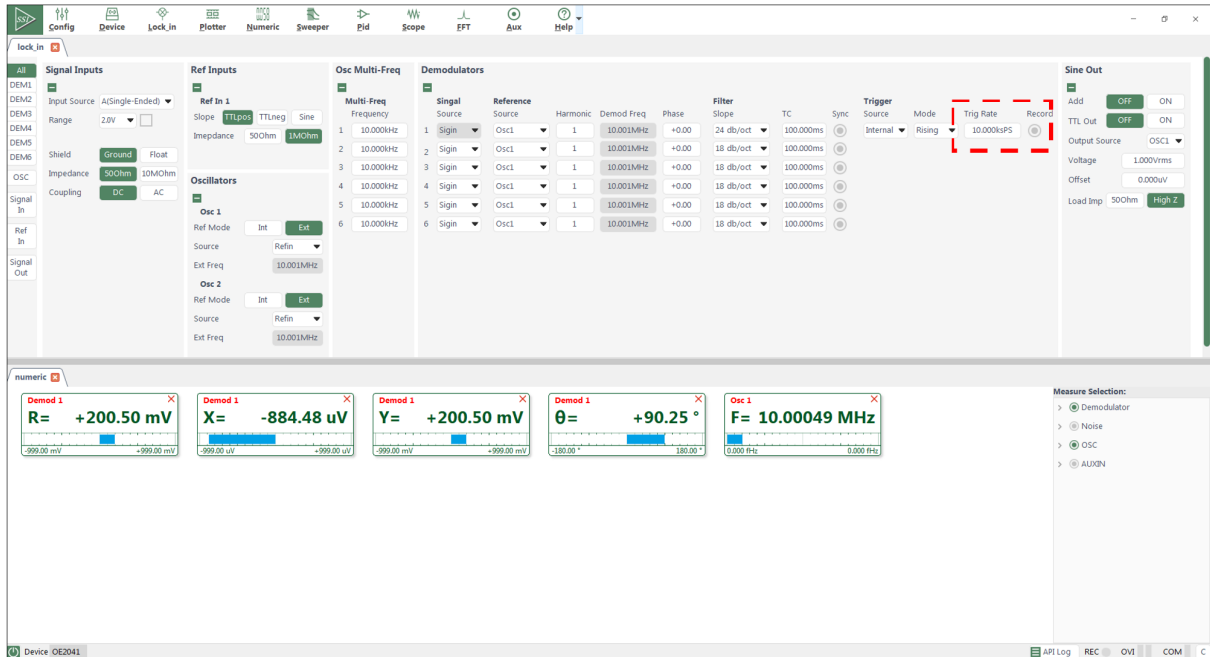

Figure 78. Data saving configuration area
1. When the software is running, click the "Record" button in the red box in Figure 78. When the button is selected, the system has started recording the currently acquired data.